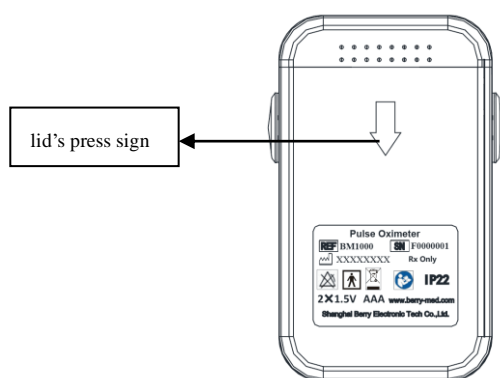

Figure 2
1. Hold the product in one hand with the front panel facing the palm. Put the other hand's big finger on the battery cabinet lid's press sign as shown in **Figure 2**, press downwards and push the lid open at the same time. The battery cabinet is opened.